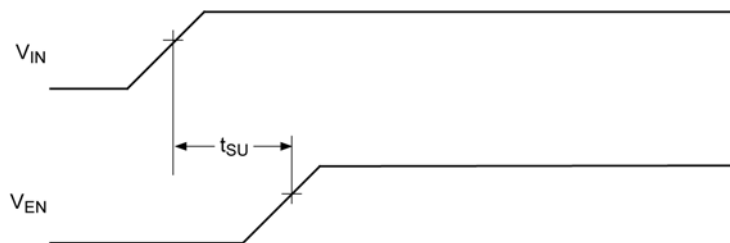

Figure 1c. Input-to-Enable Setup Timing
| $t_{SU}$ | $V_{IN}$ to EN Set-Up              | MIC2549 (7) , Figure 1c                        | 0    |      |      | $\mu s$     |